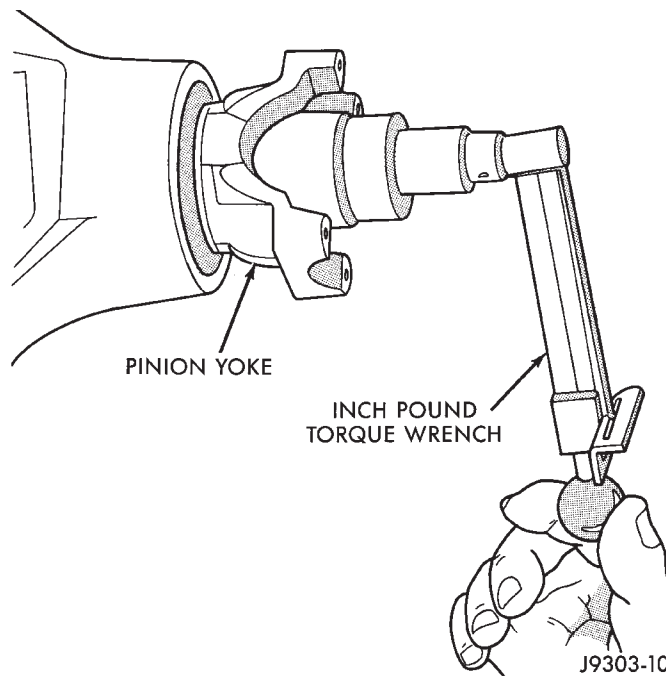

Fig. 38 Check Pinion Gear Rotation Torque
(10) Check bearing preload torque with an inch pound torque wrench (Fig. 38). The torque necessary to rotate the pinion gear should be: